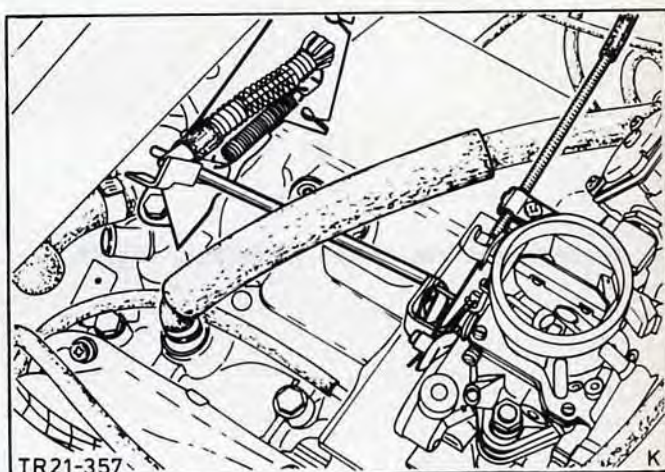

Fig.86. Connect throttle linkage
33. Fit choke operating cable and adjust. Secure throttle cable with mounting bracket to inlet manifold. Attach throttle linkage to carburettor, Fig.86, and adjust throttle cable.